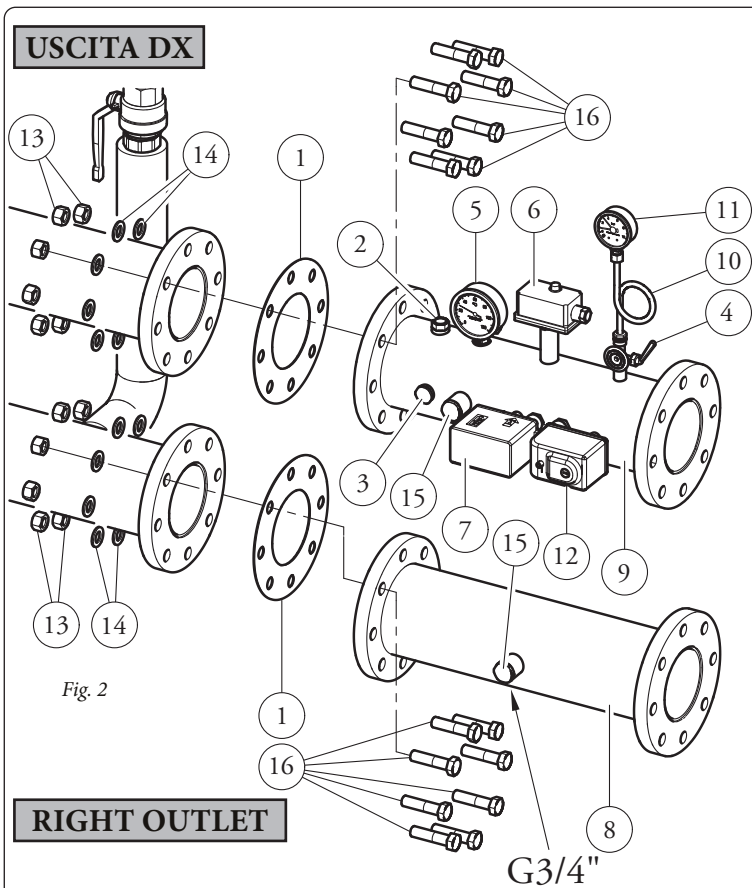

Fig. 2
Connect the safety kit manifolds as shown in figure 2, making sure to interpose the gaskets (1).